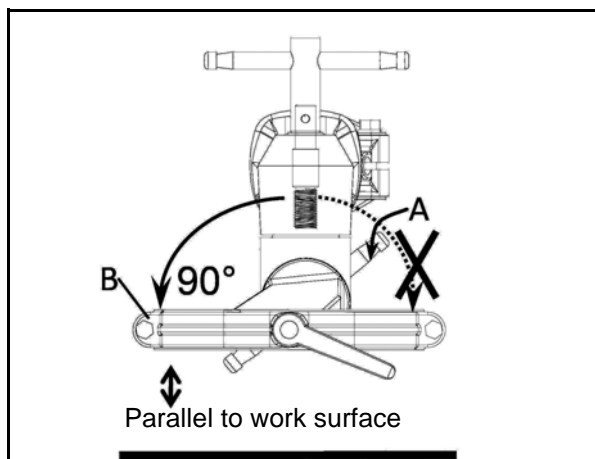

Fig. 10: Mounting of motor
Step 7: Release lever (Pos. A, Fig. 10) and turn clamp (Pos. B, Fig. 10) to the left so that it is parallel to the work surface. **Attention:** The parallel alignment of the motor clamp ensures parallelism of the rollers and the worktable.